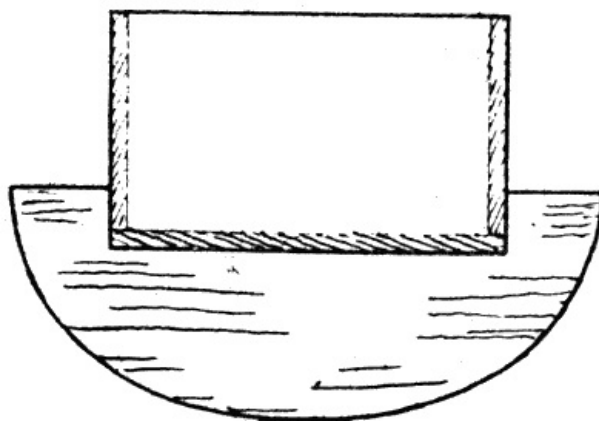
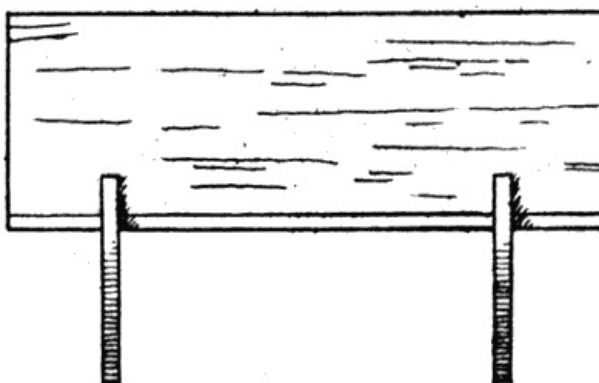

FIG. 49.
FIG. 50.
*A Doll's Cradle* is perhaps one of the simplest to commence with. To a box from which the lid has been removed, it is only necessary to add two rockers. These can be cut out from the lid by means of a fret saw, and then smoothed down with glass-paper. Fig. 49 shows the best shape for the rockers, which should be glued on about an inch from each end of the box (Fig. 50). Great care should be taken that the two rockers are as nearly alike as possible, otherwise the cradle will not swing to and fro freely.